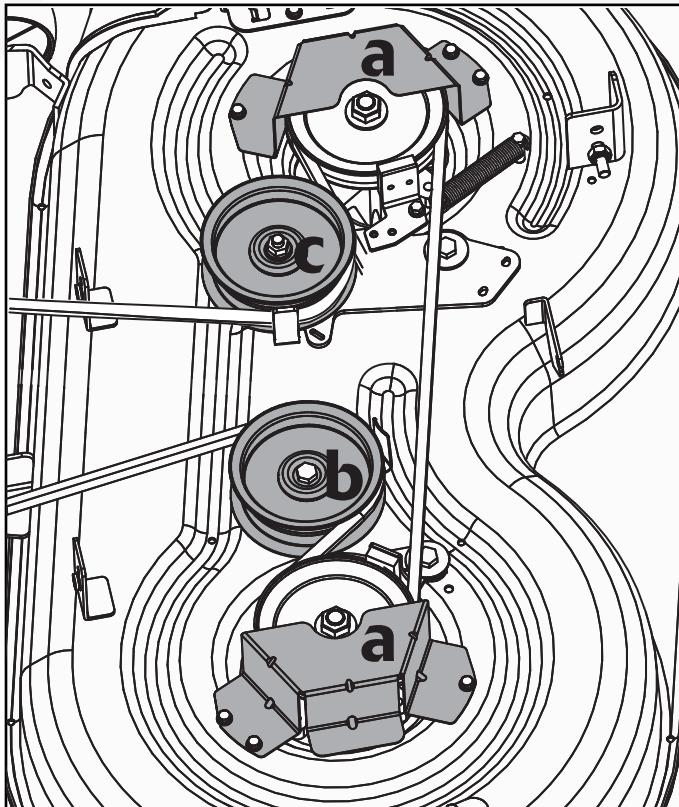

Fig. 31
2. Remove the two belt protective covers (a, Fig. 31) by removing the six screws that fasten them to the deck.
3. Remove the fixed pulley(b, Fig. 31) and tension pulley (c, Fig. 31).